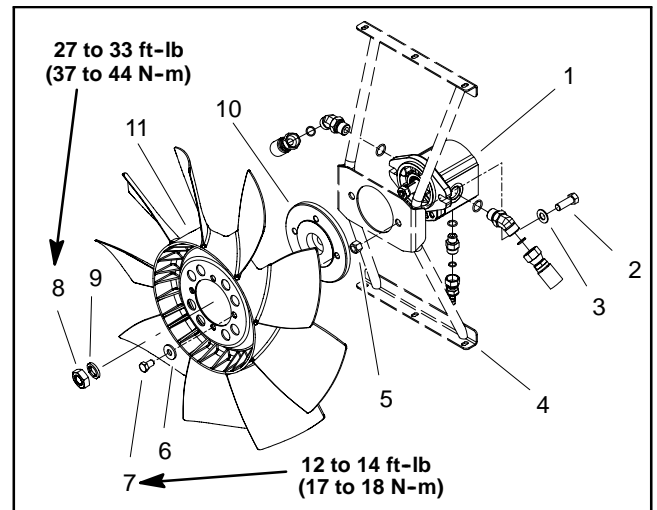

Figure 15
11. Remove fan hub and fan from hydraulic fan motor (Fig. 15).
A. Remove hex nut (item 9) and washer (item 8) that secure fan hub and fan assembly to fan motor.
6. Thoroughly clean tapered surfaces of fan motor shaft and fan hub. Position fan hub (with fan attached) onto motor shaft and secure with washer and hex nut (Fig. 15). Torque nut from **27 to 33 ft-lb (37 to 44 N-m)**.